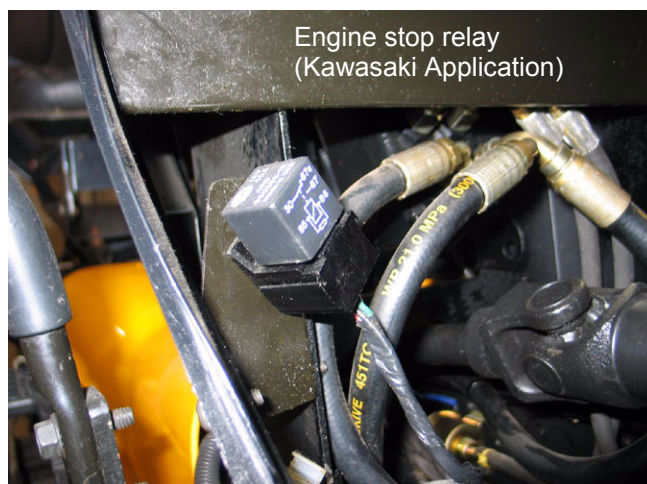

Figure 2.5
- 2.5. Kawasaki powered tractors will have a single relay and main fuse (30A) at the right rear corner of the engine bay. See Figure 2.5.